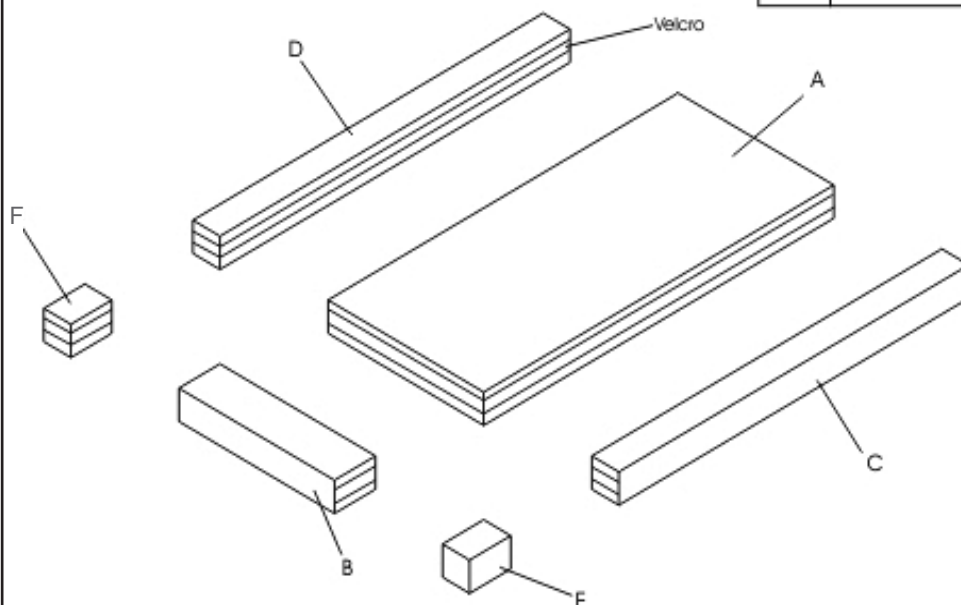

Figure 19
1. Bari10A Bed may be equipped with BariMatt 1000 6.5" foam mattress (Figure 19, p.12).